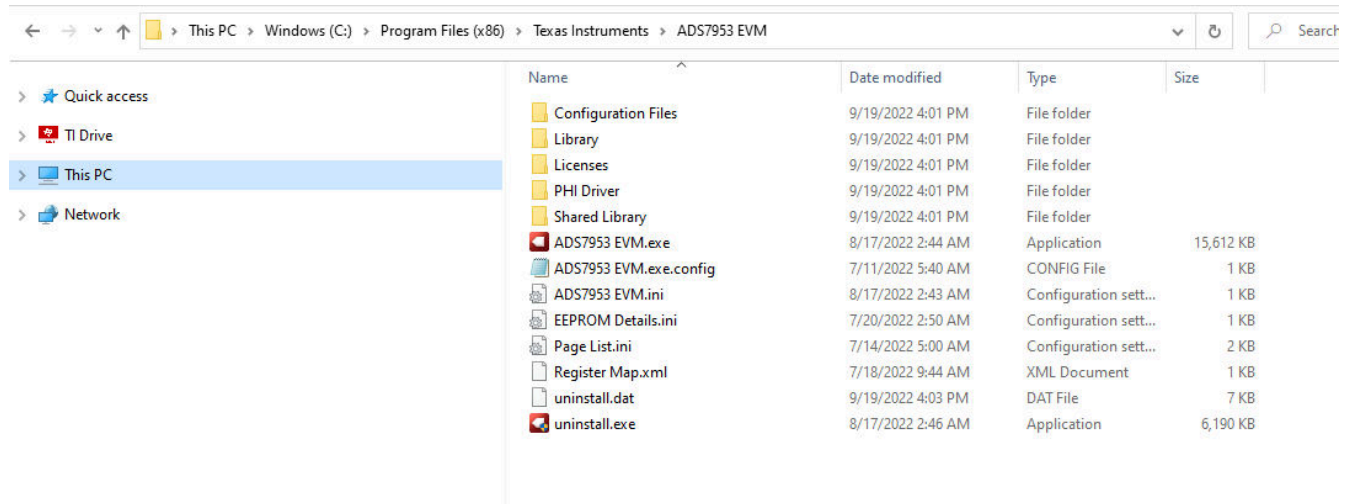

**Figure 5-4. Software Installation Final Step**
- Check the *Create Desktop Shortcut* box, as Figure 5-4 shows, after these installations.